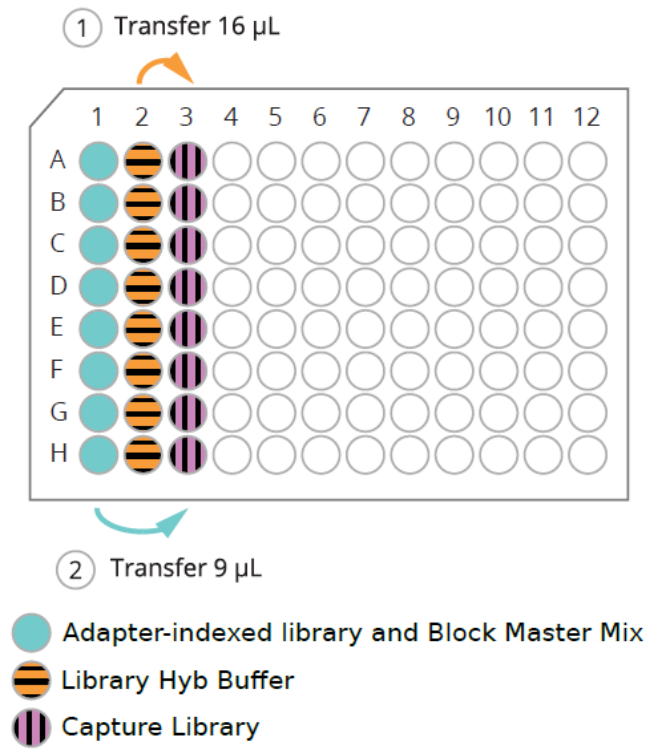

Figure 7. Transfer 16 μ l from Column 2 to Column 3 and 9 μ l from Column 1 to Column 3.
- f. Quickly transfer **16 μ l** of the **Library Hyb Buffer (column 2)** into the Capture Library Mix (column 3) and mix well by pipetting up and down 2-3 times (Figure 7. ①). Avoid generating air bubbles.
- g. Transfer **9 μ l** (entire amount) of **Block Mix with DNA library (column 1)** into column 3 containing the remaining reagents and mix well by pipetting up and down 5-10 times (Figure 7. ②). Avoid generating air bubbles.